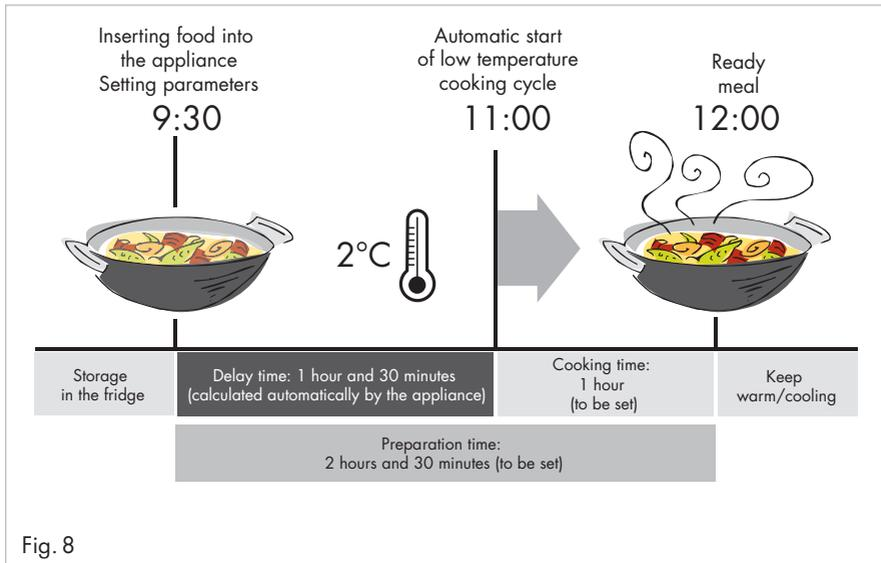

Fig. 8
**Example:** MANUAL TIMED MODE (Fig. 8) (cooking time)